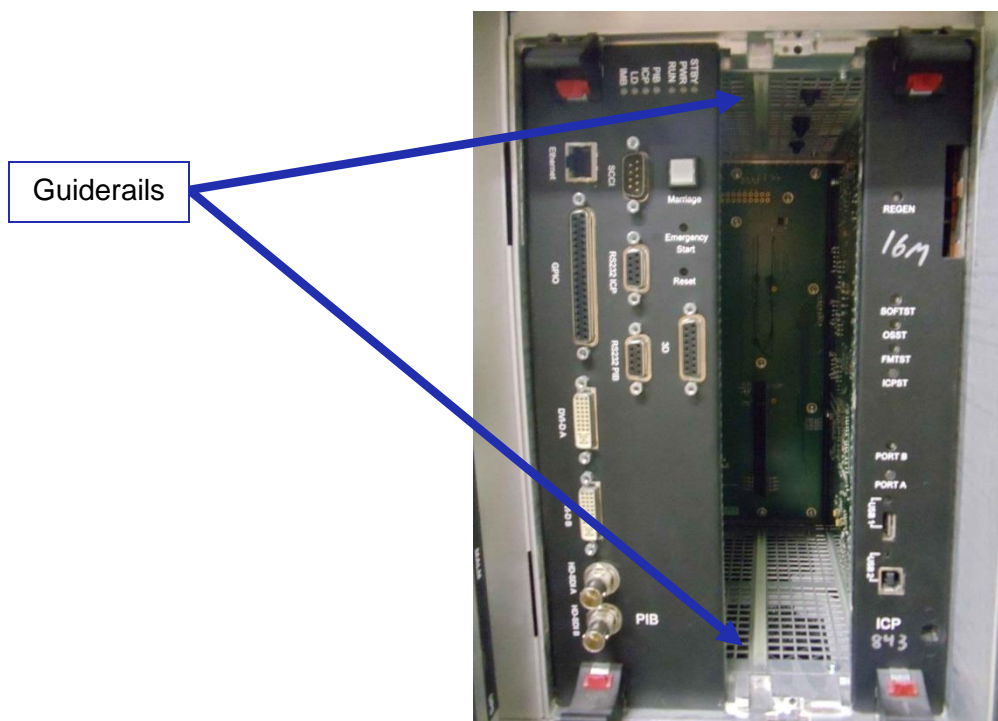
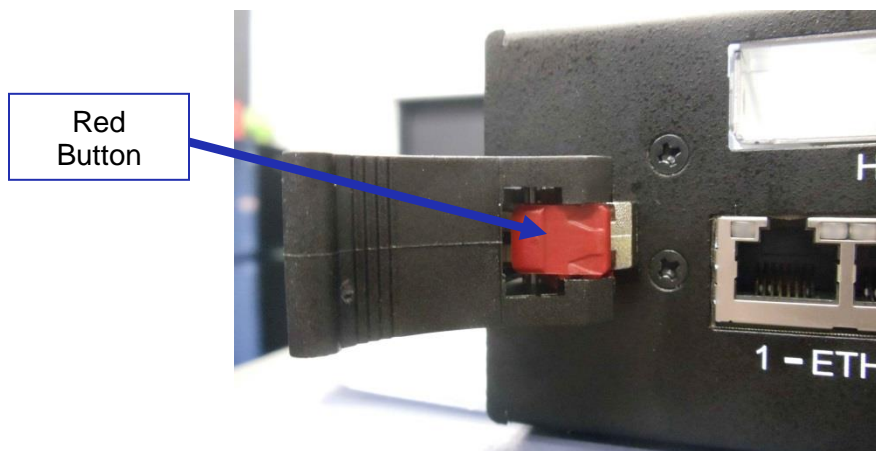

Figure 66: Empty Media Block Slot
Figure 67: Red Button on Latch
- The media block slot should now be empty (Figure 66).
- Gently place the IMS1000 board into the projector's media block slot guiderrails on the inside of the slot (Figure 66). The latches must be out and open for the IMS1000 to fit properly. To open the latches, press on the red button (Figure 67).